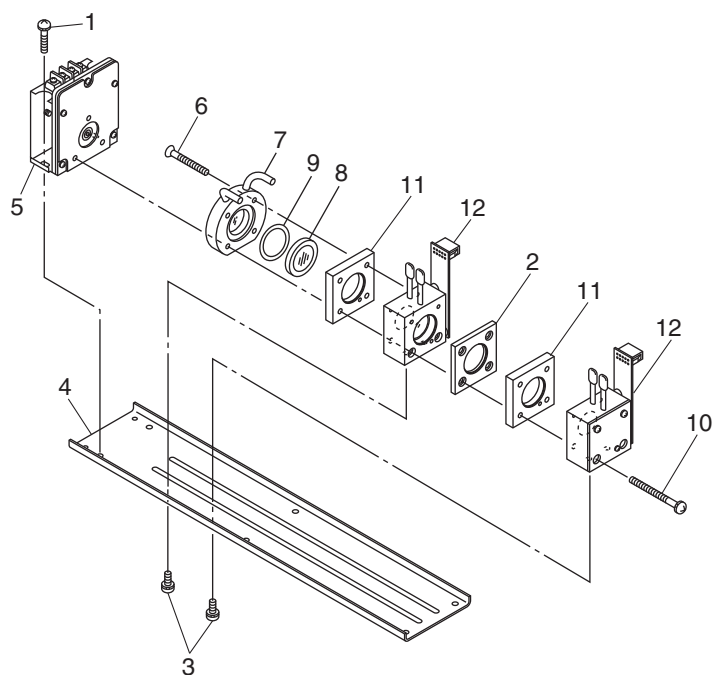

Fig. 7-2 Configuration of measuring unit (block cell)
(2) How to remove block cell (See Fig. 7-2)